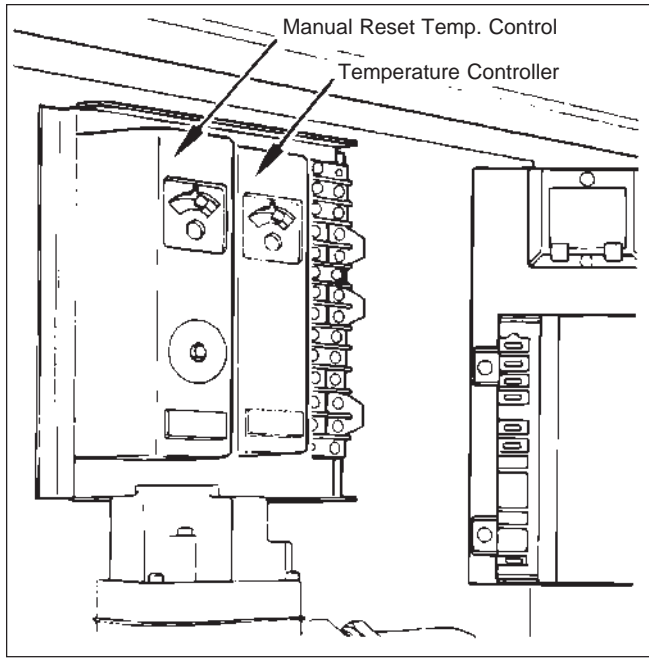

Figure 28. Temperature controls.
3. Set the temperature control (see Figure 28) to its lowest setting.
Water temperature can be adjusted at the temperature control (see Figure 28). The temperature control is adjusted to its lowest setting when it is shipped from the factory. The 130°F (54°C) setting is the recommended starting point for setting the temperature control.
Heaters on constant flow have the temperature control sensor bulb in the heater inlet and the manual reset hi-limit sensing bulb located in the heater outlet. Set the temperature control dial (see Figure 28) at the designed system temperature. Set the hi-limit switch 40 to 50°F (4 to 10°C) above the supply temperature to the system.